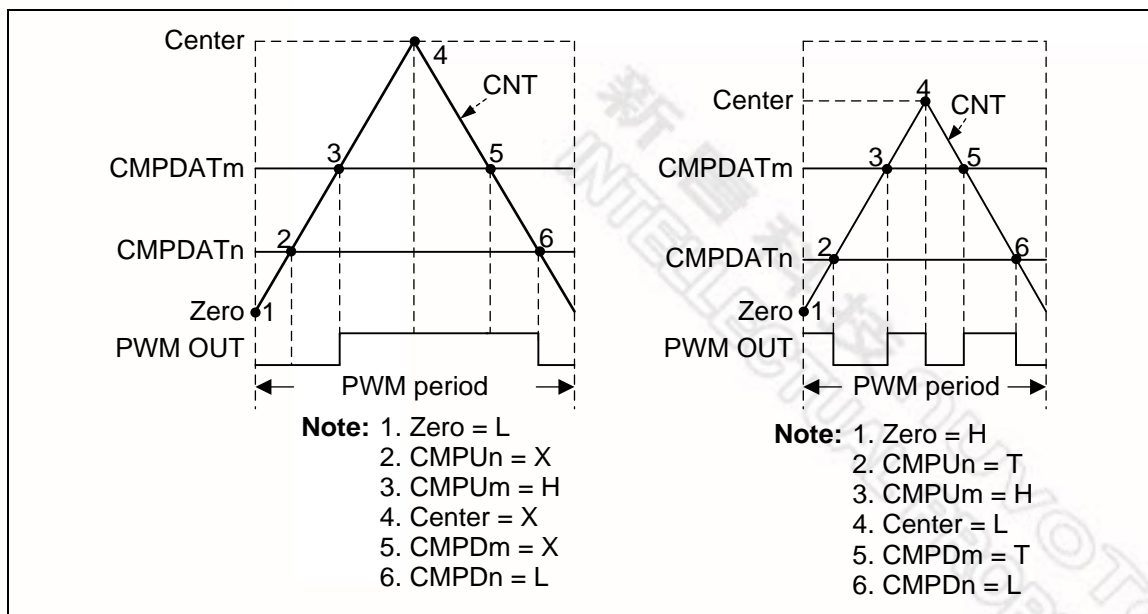

Figure 6-37 PWM Pulse Generation
Each event point can decide PWM waveform to do nothing (X), set Low (L), set High (H) or toggle (T) by setting PWM_WGCTL0 and PWM_WGCTL1 registers. Using these points can easily generate asymmetric PWM pulse or variant waveform as shown in Figure 6-37. In the figure, PWM is in Complementary mode, there are two comparators n and m to generate PWM pulse. n denotes even channel number 0, 2, 4, m denotes odd channel number 1, 3, 5. n and m channels are complementary paired. Complementary mode uses two channels (CH0 and CH1, CH2 and CH3, CH4 and CH5) as a pair of PWM outputs to generate complement paired waveforms. CMPU denotes CNT is equal to CMPDAT when counting up. CMPD denotes CNT is equal to CMPDAT when counting down.